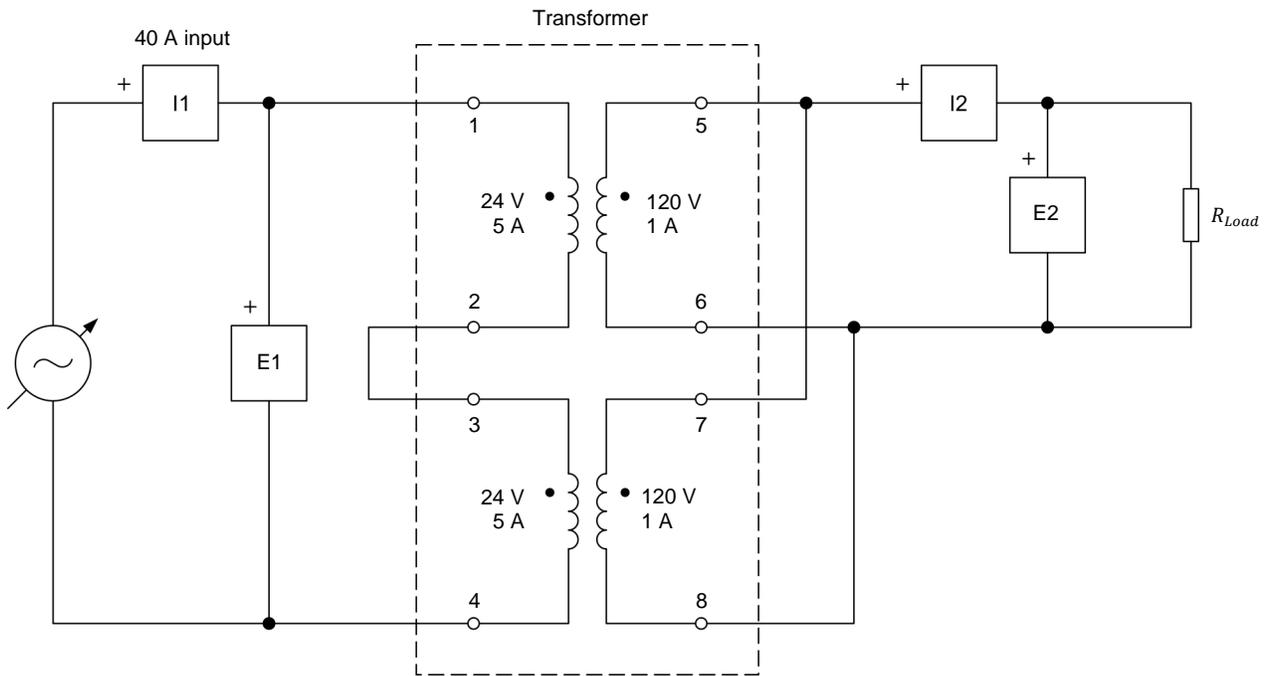

Figure 34. Step-up transformer connected to a resistive load.
26. Connect the equipment as shown in Figure 34.
40. Using two **Resistive Load** modules, modify the resistive load in the circuit of Figure 34 so that it consists of two resistors in series. This doubles the voltage that can be applied to the resistive load, as well as the power which the resistive load can dissipate. To do so, connect the three resistor sections on each **Resistive Load** in parallel, then connect the two **Resistive Load** modules in series, and then set the resistance on each **Resistive Load** to 60 Ω . The total resistance of the resistive load R_{Load} is thus equal to 120 Ω .